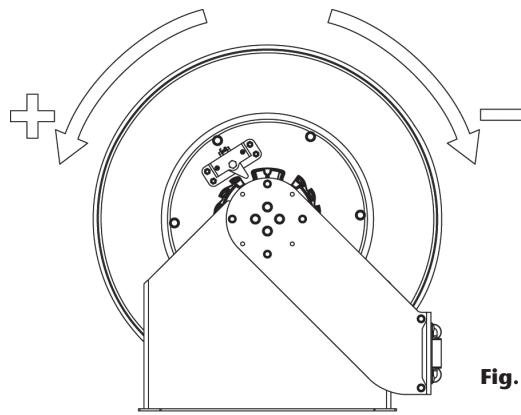

Fig. 5
- 6.** Apply the pre-tension to the power spring by turning the spool the number of turns indicated below, depending on the power spring version and the hose length (fig. 5):
- 4.** Turn the spool to increase or decrease the power spring tension (fig. 5).